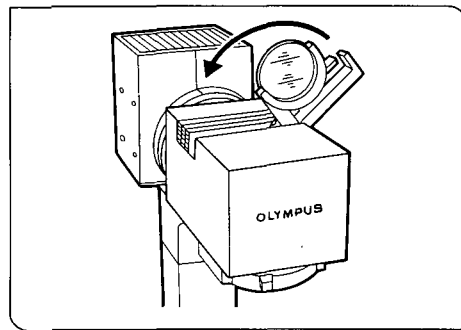

Fig. 78
3. Engage the filters into the light path by moving them in the direction indicated by the arrow. (Fig. 78)